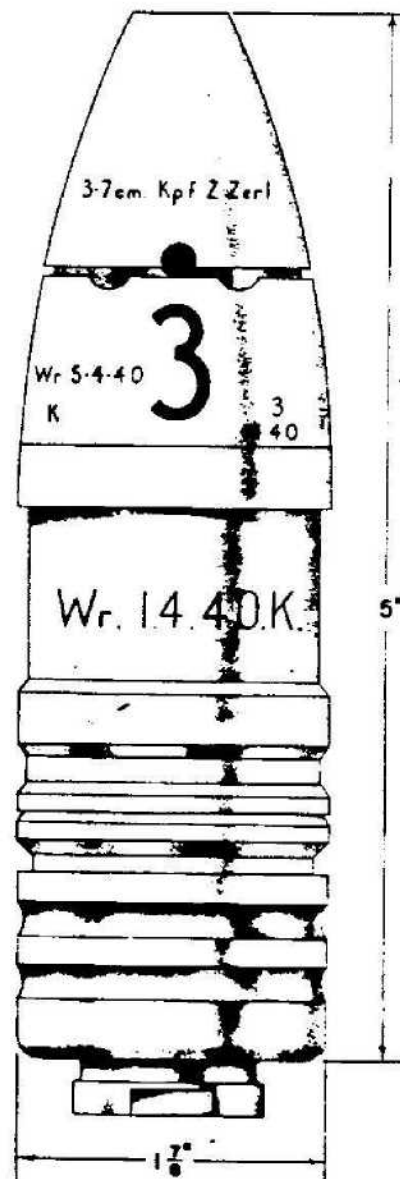

Figure 355—H. E. Projectile for A. A. Gun, 37-mm, 3.7-cm Sprgr. Patr. 18
**GERMAN NOMENCLATURE:** 3.7-cm Sprgr. Patr. 18 (Sprenggranate Patronen 18). (See fig. 355.)